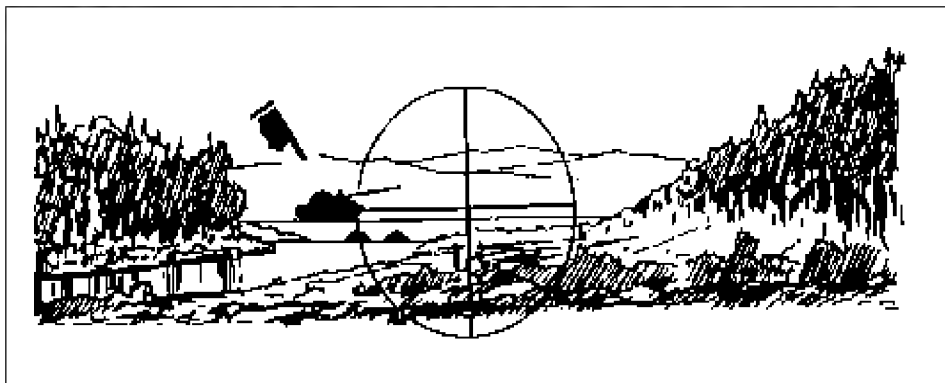
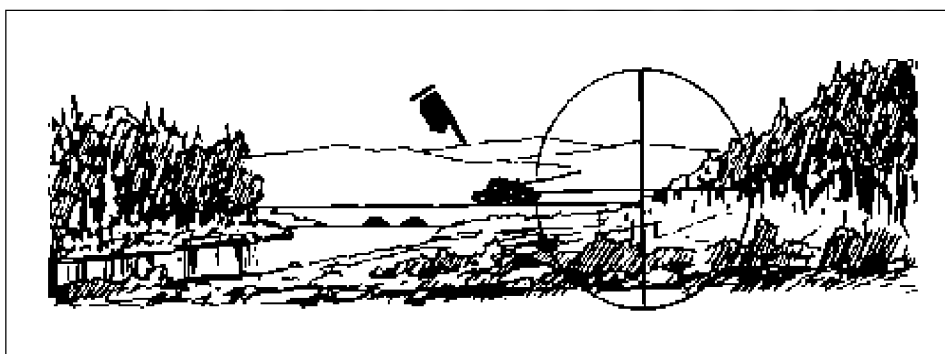

Figure 8-17. Target unable to reach cover in time.
Figure 8-18. Target able to reach cover in time.
b. If the gunner places the cross hairs center of mass and fires at once, the target will not reach the protection of the hill in time (Figure 8-17). If the gunner does fire—the target will reach the protection of the hill before the missile hits (Figure 8-18).